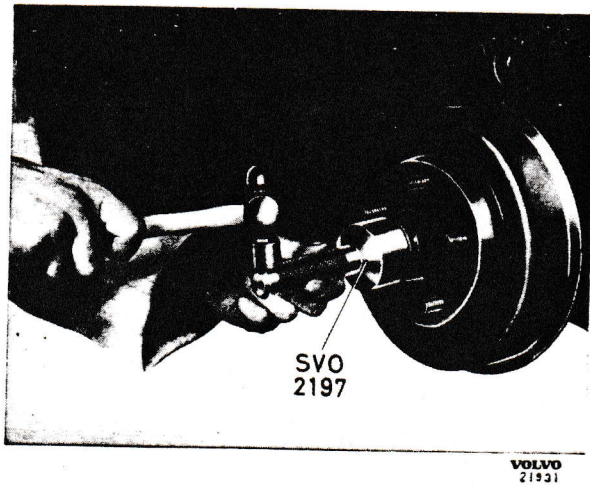

Fig. 12. Removing grease cap
3. Remove the grease cap with tool SVO 2197 (see Fig. 12). Remove the split pin and castle nut. Pull off the front hub with puller SVO